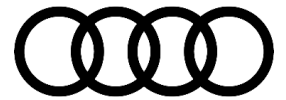

Figure 3. Area of left rear panel overlap to be repaired.
2. Figure 3 shows the exposed area where the work is to be performed.